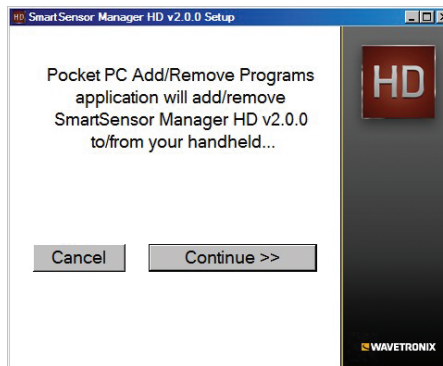

Figure 3.5 – Adding SSMHD to a Handheld Computer
- 4 Click **Continue>>** to start the handheld computer installation process (see Figure 3.5). The setup program runs the Add/Remove Programs application for Windows handheld devices. If a handheld device is connected to the computer, Add/Remove Programs will immediately begin installing SSMHD on the device. If a handheld device is not connected to the computer, SSMHD will be downloaded the next time a handheld device is connected to the computer.